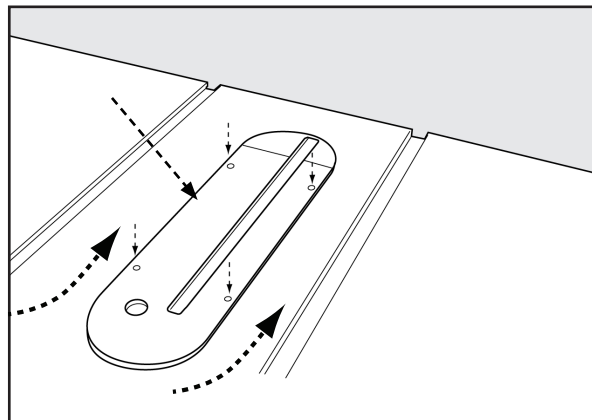

FIGURE 11A
1. To install throat plate, lower blade below tabletop, then carefully feed the throat plate, slotted end first, from the front of the table to the rear, keeping the blade centered within the slot on the throat plate. See Figure 11A. The plate should rest within the cavity in the tabletop.